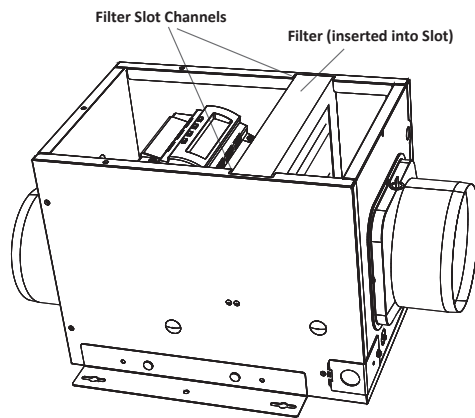

Figure 9 - Location of optional air filter
3. Insert a new filter into the slot in the housing where the exhausted filter was installed. Make sure the filter is seated all the way to the bottom of the housing (Figure 9).